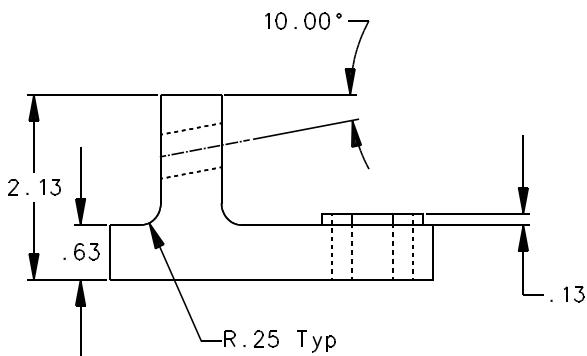

Figure 56
- Figure 56 shows the location of the 10.00 degree dimension.